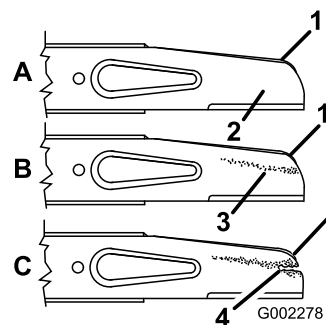

Figure 33
2. Remove the blade nuts, the accelerator, and the blade (Figure 33).